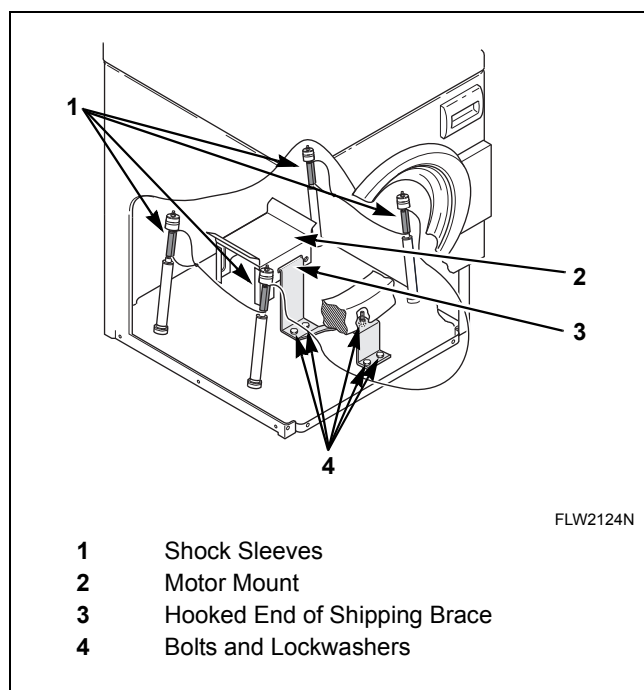

Figure 39
- Place the shock sleeves on all four shock absorbers. Refer to *Figure 39*.
- Insert hooked end of shipping brace into the open slot of the motor mount. Refer to *Figure 39*.
- Attach the brace with the five bolts and washers. Refer to *Figure 39*.